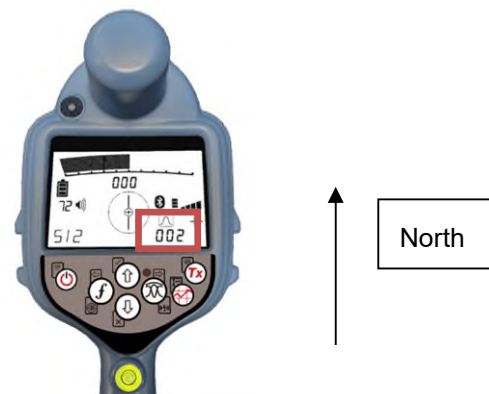

Figure 8
- **CHECK** – displays the current heading value under the bar graph (figure 8). This is useful to compare heading accuracy with another physical or digital device. The error is also shown in the bottom right (figure 8).
4. Once 50 valid measurements are obtained, the RD8200SG will automatically switch into the **CHECK mode**. The purpose of check mode is to **evaluate calibration quality**. In this mode the two highlighted numbers (figure 8) will be different – the top number represents magnetic heading (like a conventional compass with north being 0 degrees) and the bottom number represents the calibration percentage error.
6. For a successful calibration, the calibration percentage error (bottom highlighted number in figure 8) must be less than 5%.